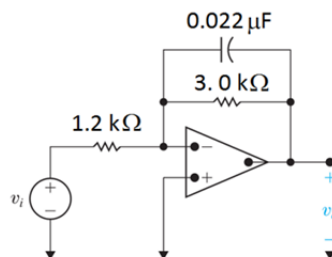

Figure 2: AC Op-Amp Circuit
4. For the circuit in Figure 2, calculate the DC gain.
5. For the circuit in Figure 2, calculate the AC gain (magnitude and phase) for an input with a frequency of 5 kHz.